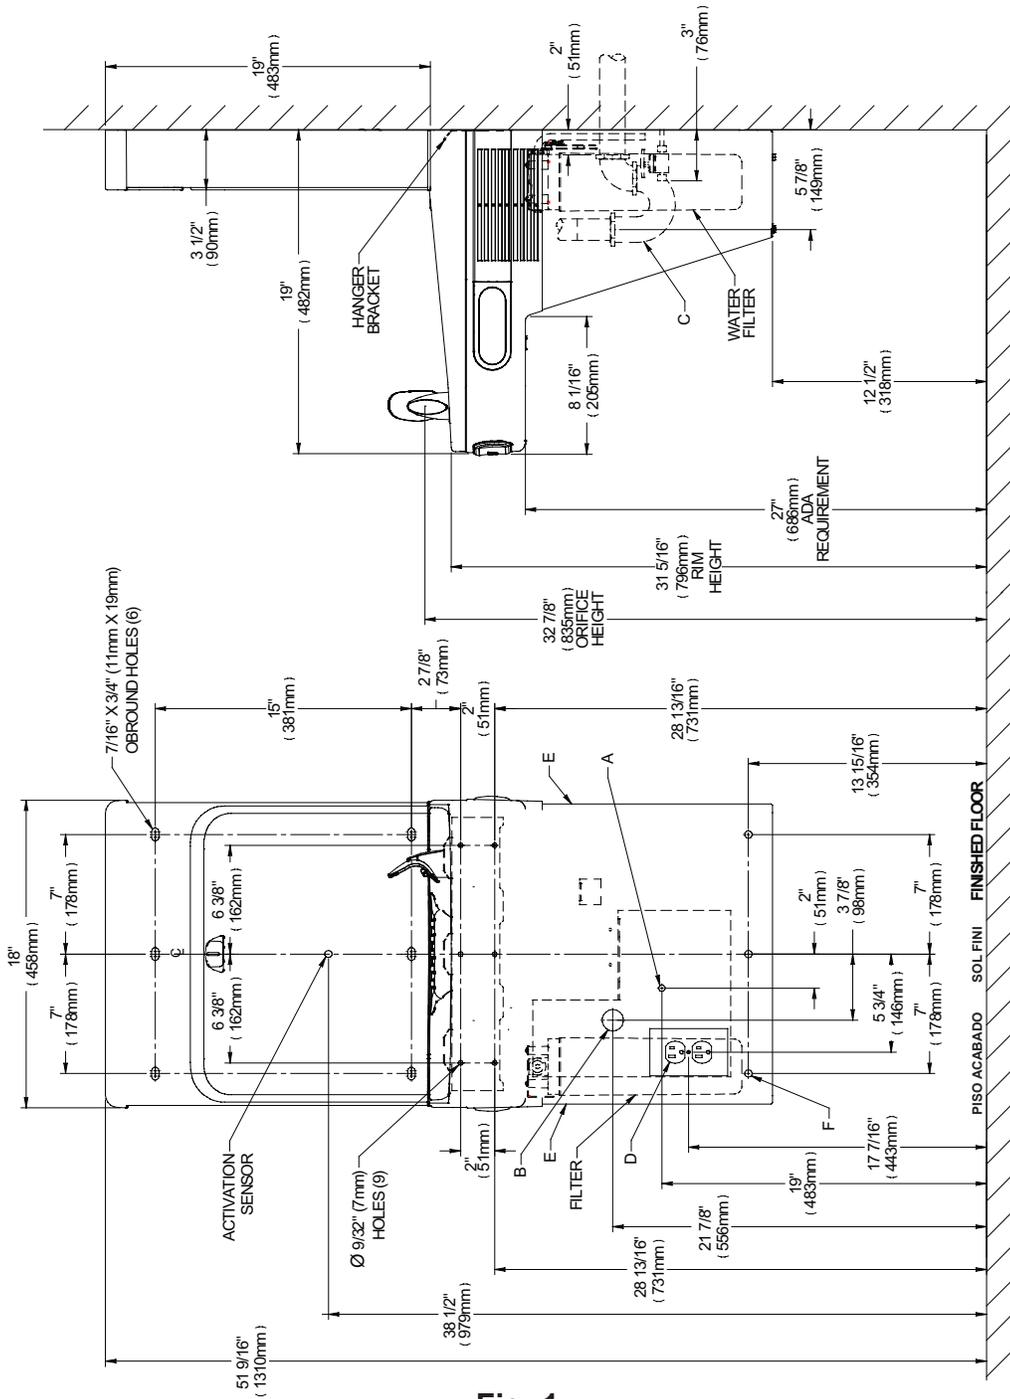

Fig. 1
- 1) Remove hanger bracket fastened to back of cooler by removing one (1) screw.
- 2) Mount the hanger bracket as shown in Figure 1 (Pg. 2).
- 3) Hang the cooler on the hanger bracket. Be certain hanger bracket is engaged properly in the slots on the cooler back as shown in Figure 1 (Pg. 2).